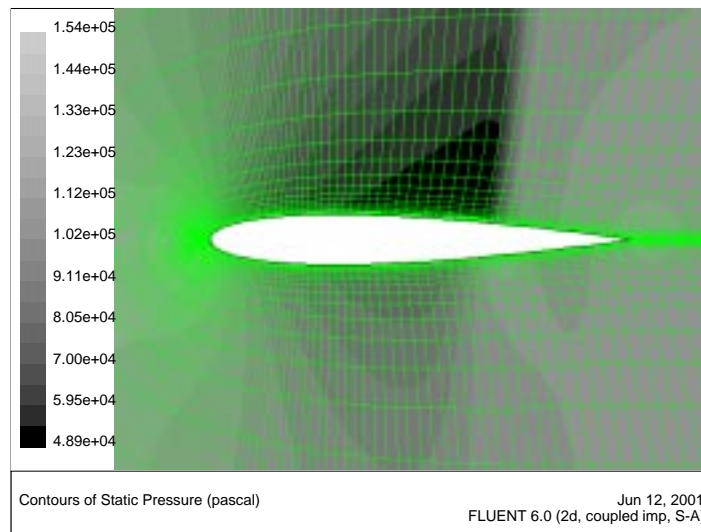

Figure 3.4: Pressure Contours After 100 Iterations
- v. Zoom in on the airfoil (Figure 3.4).